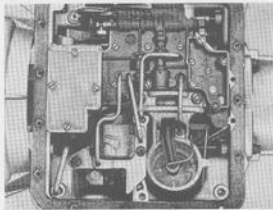

Fig. 4-130. Retention of pump strainer
27. Fit the four oil tubes according to Fig. 4-130.